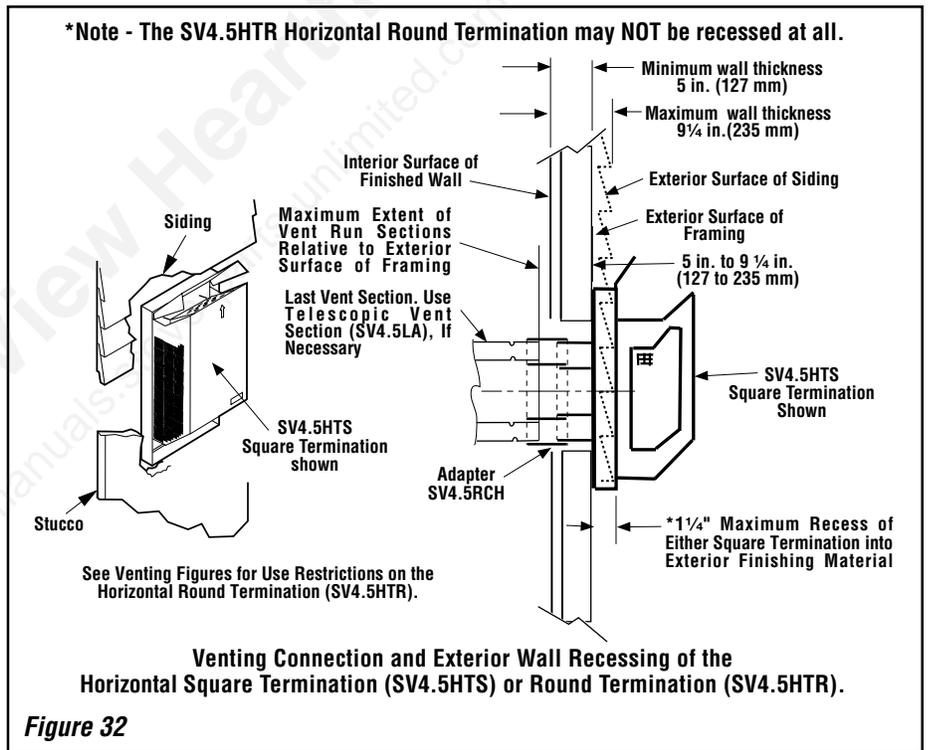

Figure 32
J. Assemble vent run to exterior wall - If not previously measured, locate the center of the vent at the exterior wall. Prepare an opening as described in **Step B**. Assemble the vent system to point where the terminus of the last section is within 7 in. (178 mm) to 1 1/4 in. (286 mm) inboard of the exterior surface to which the SV4.5 HTS termination is to be attached, see **Figure 32**. If the terminus of the last section is not within this distance, use the **telescopic vent section SV4.5LA**, as the last vent section. For wall thicknesses greater than that shown in **Figure 32**, refer to **table 3 on page 17**. This table lists the additional venting components needed (in addition to the termination and adapter) for a particular range of wall thicknesses.
1. Install the square termination (SV4.5HTS) - For the last step, from outside the exterior wall, slide the collars of the termination onto the adapter (the outer over the outer and the inner inside the inner) until the termination seats against the exterior wall surface to which it will be attached. Orient the housing of the termination with the arrow pointed upwards. Secure the termination to the exterior wall. **The horizontal termination must not be recessed into the exterior wall or siding by more than the 1 1/4" (32 mm) as shown in Figure 32.**